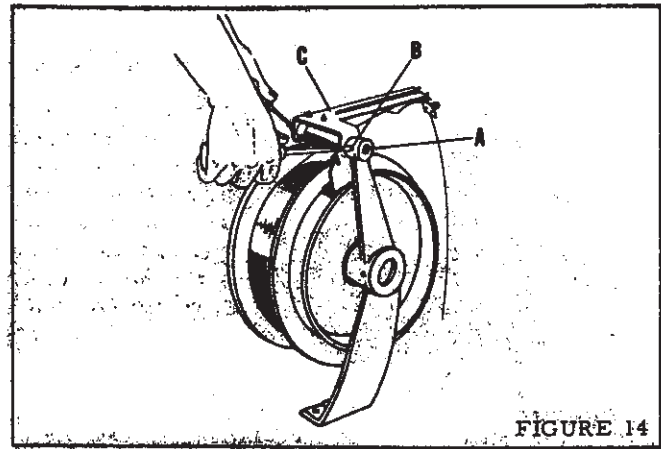

FIGURE 14
This is made before shipment. If further adjustments are necessary, use two screw drivers, with the one in the left hand held securely in brake shaft (A, figure 14). Right hand operates the screw driver to loosen set screw (B, figure 14). Turn brake bracket shaft clockwise to tighten brake -- counterclockwise to loosen brake.
(1) Turn the brake bracket shaft counterclockwise until the wire guide assembly (C, figure 14) falls limp. (2) Turn the brake bracket shaft clockwise until the slack is removed and the brake shoe is just touching the brake drum. (3) Make one more full turn on the brake bracket shaft. (4) Tighten set screw. Be sure that the brake drum is kept clean. Dirt and rust will cause the brake to grab and prevent the coil holder from coming to a smooth, gradual stop.